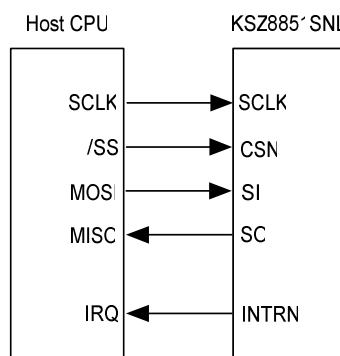

Figure 6. SPI Interface to KSZ8851SNL
The KSZ8851SNL supports a SPI interface in slave mode. In this mode, a external SPI master device (micro-controller or CPU) supplies the operating serial clock (SCLK), chip select (CSN) and serial input data (SI) which is clocked in on the rising edge of SCLK to KSZ8851SNL device. Serial output data (SO) is driven out by the KSZ8851SNL on the falling edge of SCLK to external SPI master device. The falling edge of CSN is starting the SPI operation and the rising edge of CSN is ending the SPI operation. The SCLK stays low state when SPI operation is idle. Figure 6 shows the SPI interface connection for KSZ8851SNL.